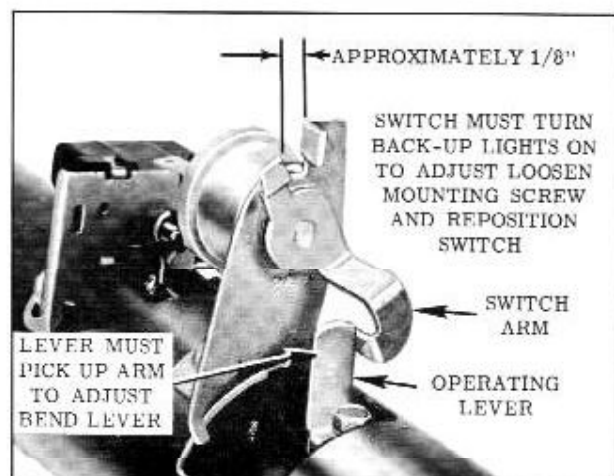

Fig. 13-95 Back Up Lamp Switch (Rev. Pos)
2. Position adjustable operating lever so that it operates switch in reverse only. (Fig. 13-95)
2. Place transmission shift lever in reverse. Move switch clockwise until there is approximately 1/8" gap between switch lever and stop. (Fig. 13-95) Tighten mounting screw.